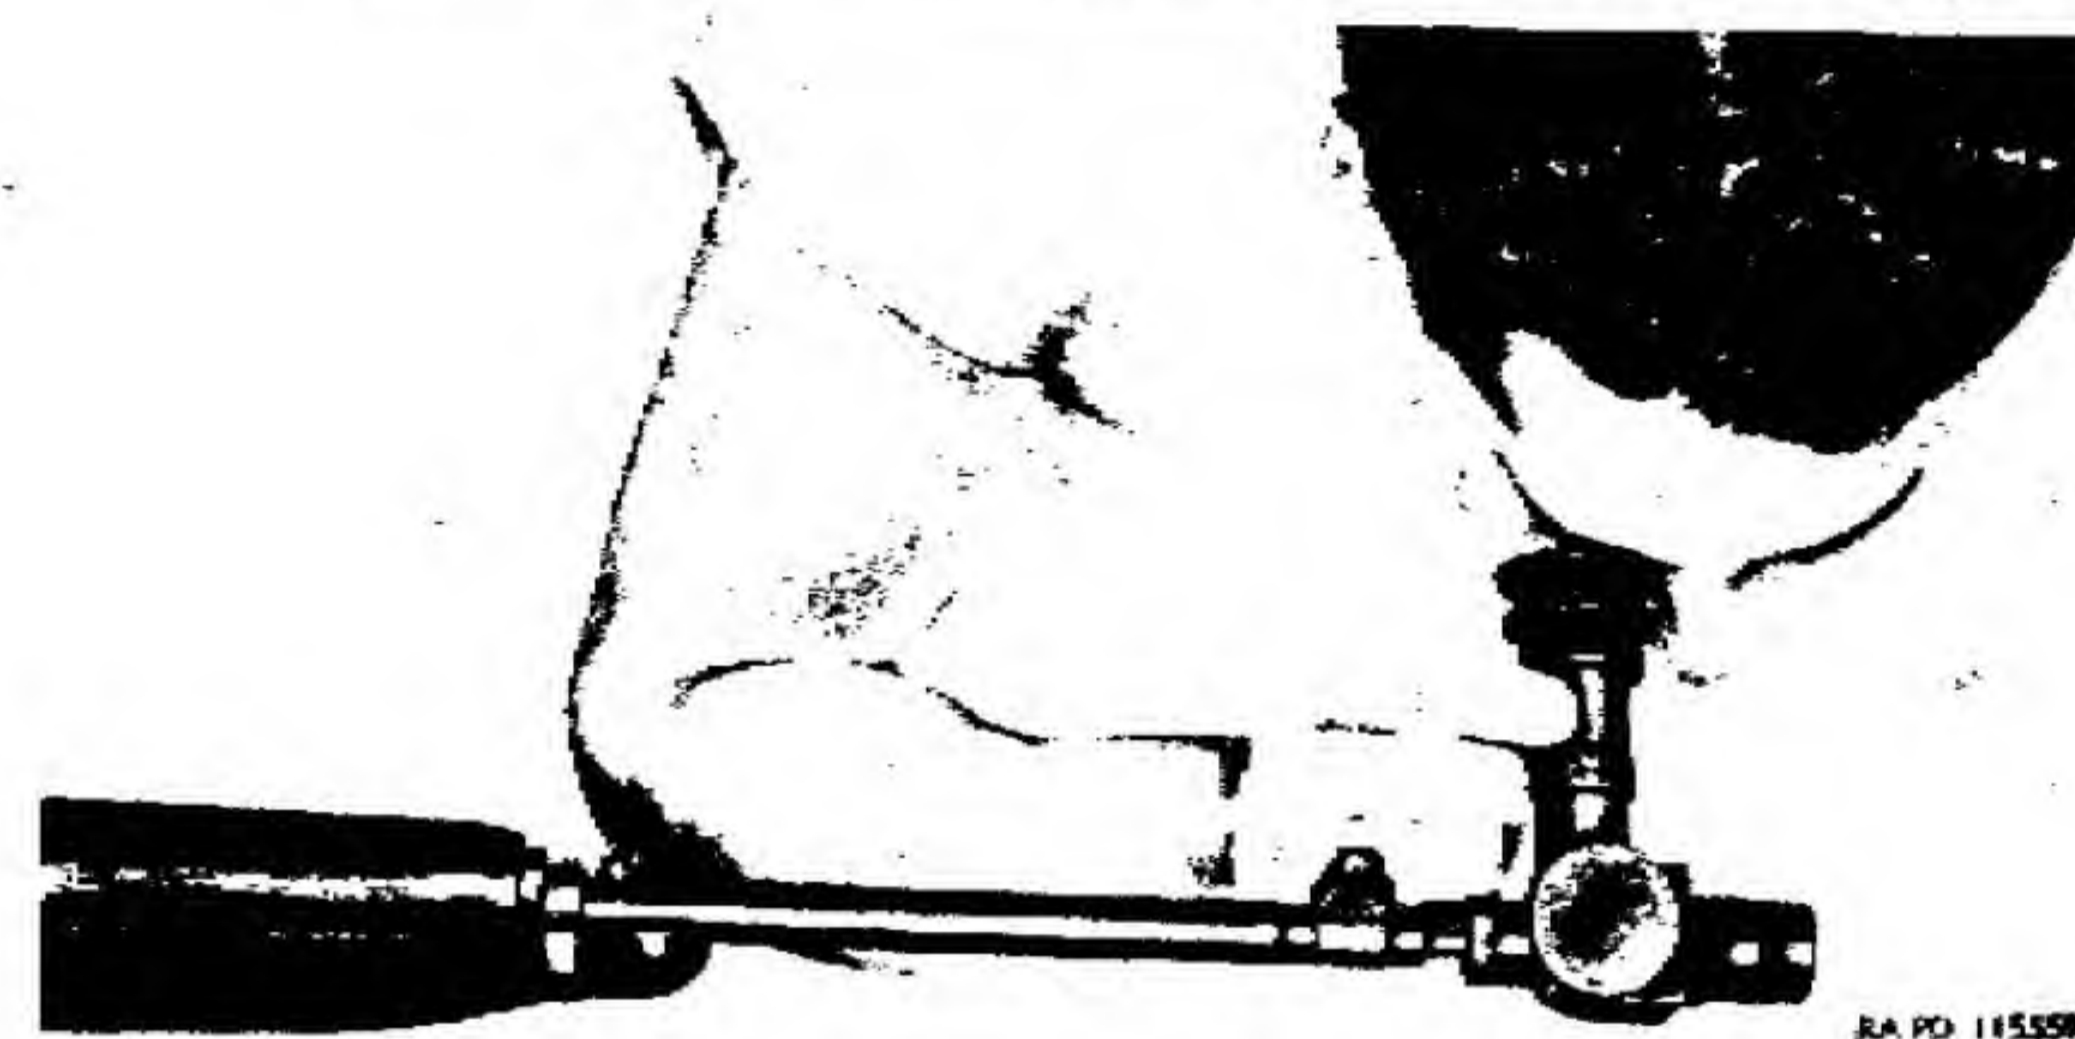

Figure 41. Method of using bore sighting scope.
- (2) In the event that suitable firing ranges are not available, the use of a bore sighting method, which has received prior approval of Chief of Ordnance, Washington 25, D. C., ATTENTION: ORDFM, is required. A satisfactory bore sighting scope and the proper method for using it is shown in figure 41. The assembly drawing which should be used